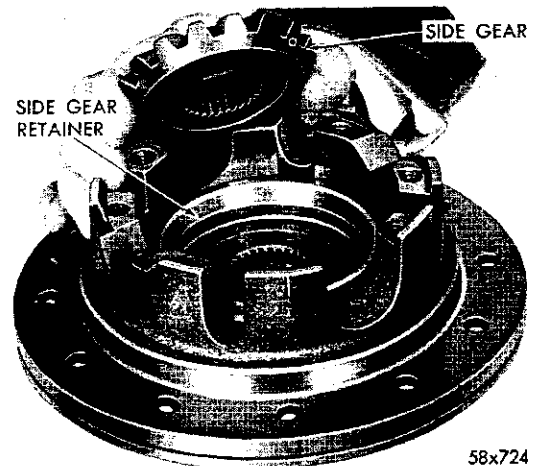
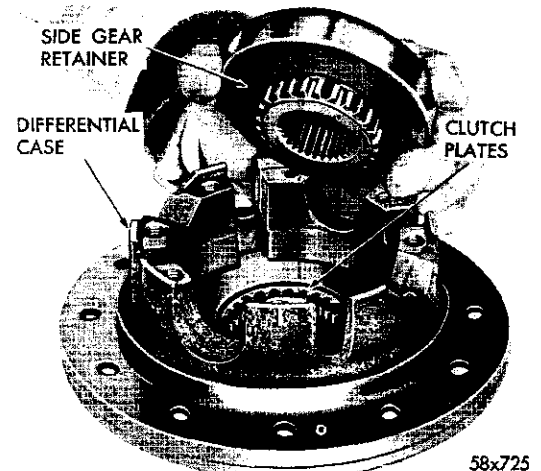
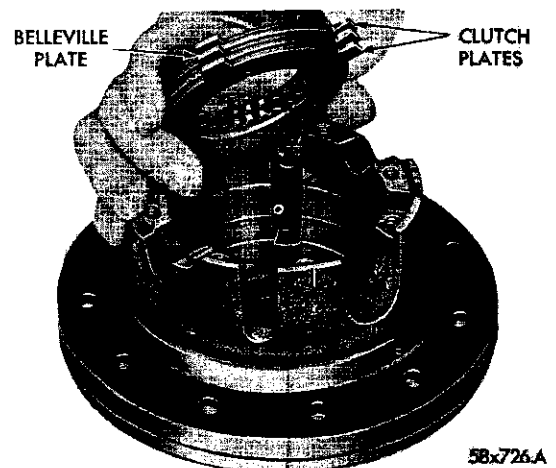

Fig. 38—Removing or Installing Side Gear from Differential Case
Fig. 39—Removing or Installing Side Gear Retainer
Fig. 40—Removing or Installing Clutch Plates
(5) Remove the remaining side gear (Fig. 38), the side gear retainer (Fig. 39) and the clutch plates (Fig. 40).
(6) Remove the axle shaft thrust spacer by pressing out the lock pin.